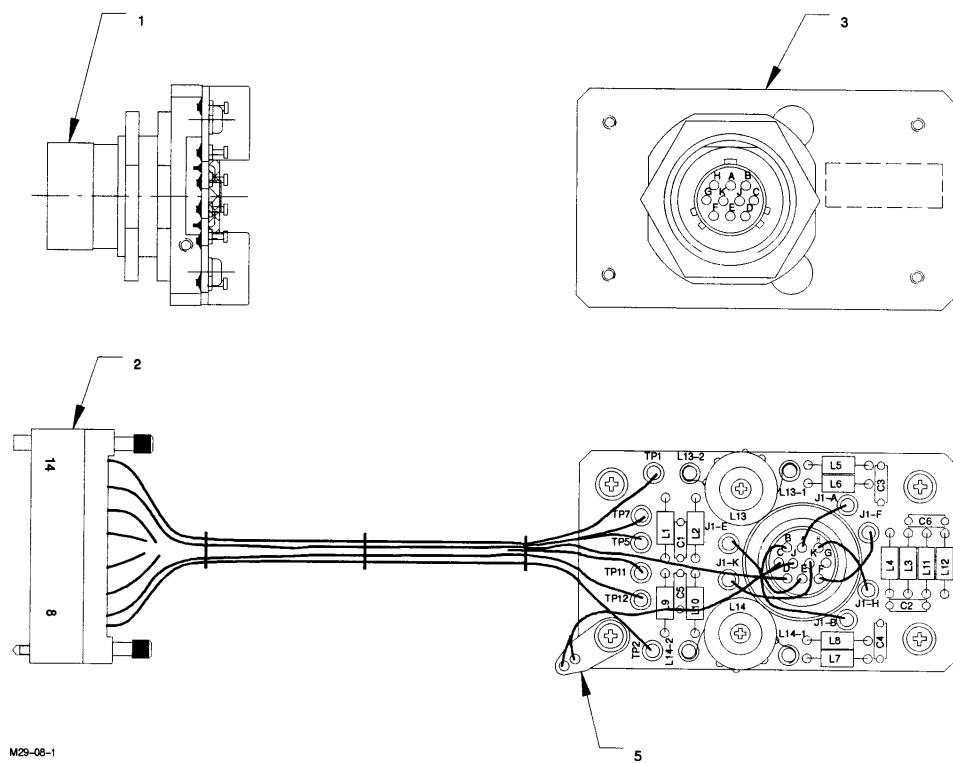

Figure D-38. EMI Filter Module, AY6707289-1
D.8.7 Visual Inspection. Refer to Figures D-38. and D-39.